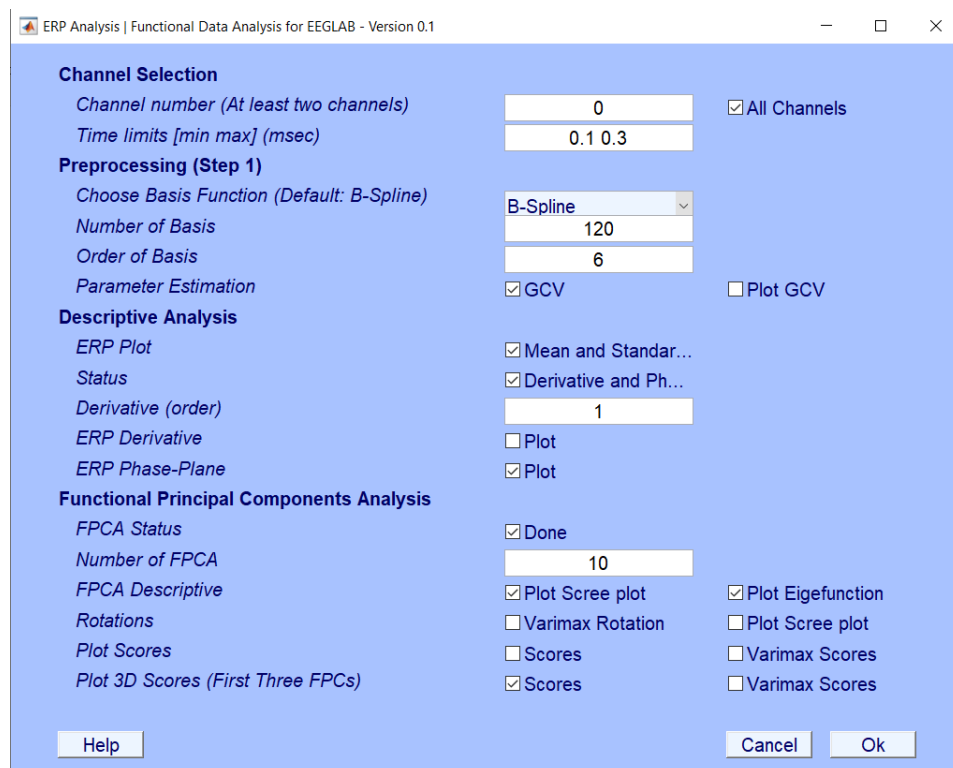

Figure 33 –The GUI for FPCA on all Channels for Target Stimuli (similar to Standard Stimuli).
- 7- Click **Ok**. (figure 33)